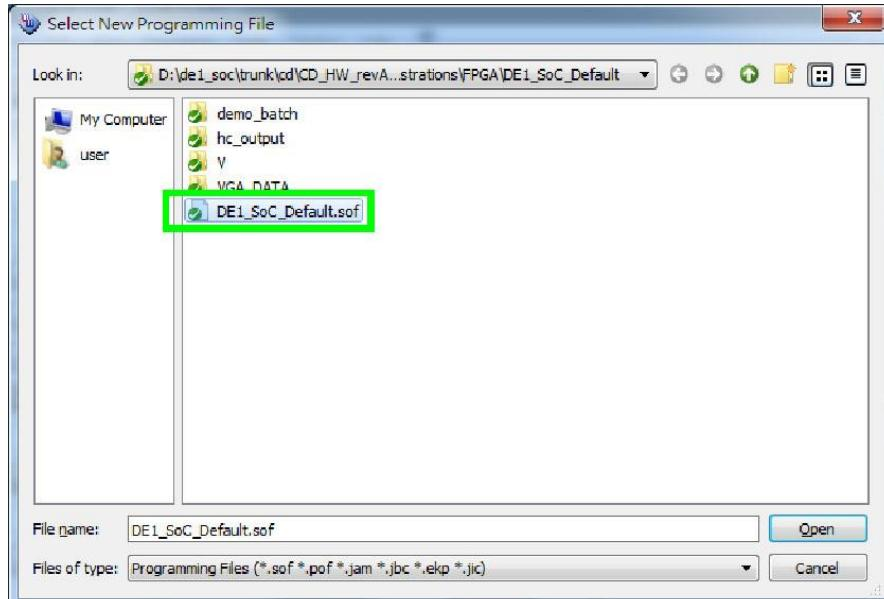

Figure 3-7 FPGA JTAG Programming Steps 5
- Select .sof file for FPGA as Figure 3-7